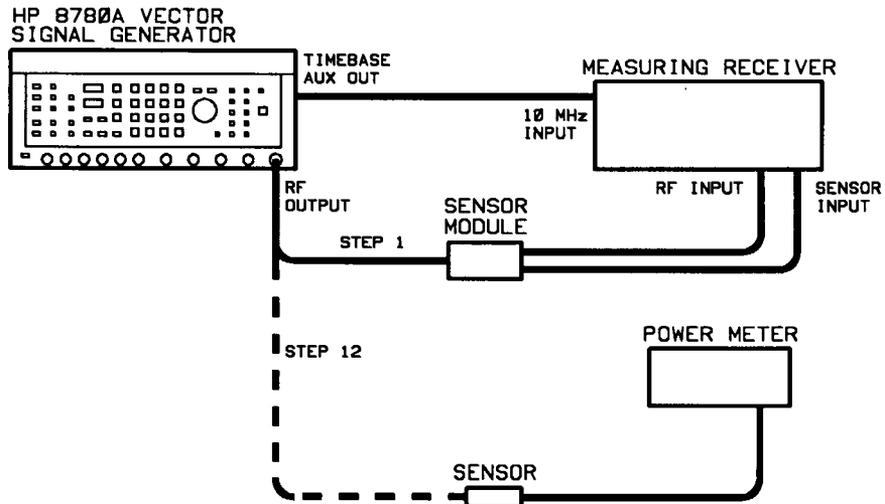

Figure 4-2. RF Level Test Setup
3. Connect the equipment as shown in figure 4-2.